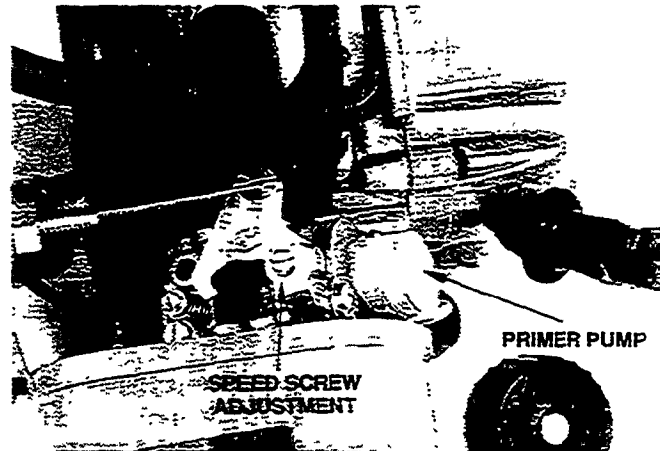

Figure 17
- Push the primer pump until fuel flows through the clear plastic return line (Figures 17 & 18).
- Adjusting idle speed should always be done with a tachometer to insure proper idle speed (2,800 to 3,300 rpm). If a tachometer is not available, the idle speed may be adjusted as follows (**Figure 17**):